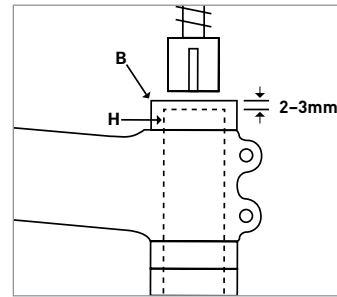

Figure 6
- Carefully measure and mark the amount of steerer tube to be removed. Remember that, when cut, the top of the steerer tube must be 2–3mm below the top of the headset spacer/stem assembly (fig. 6).